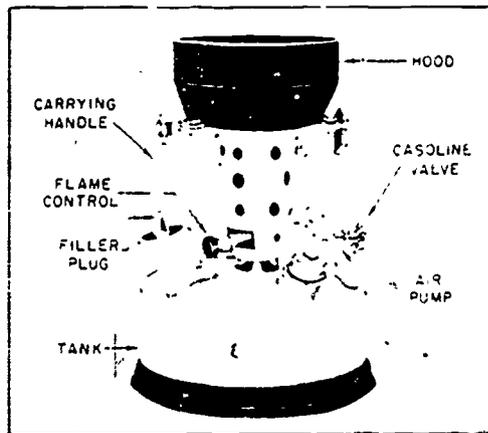

Figure 3-40 Gasoline melting furnace
*Melting Furnace.* The melting furnace, shown in figure 3-40, is used to melt lead when you are making soil pipe joints. It operates on white gasoline (not leaded). Many of these furnaces have been used in the past. There are still some being used in the Air Force. Another type of melting furnace is one that is operated on propane gas. You saw it in figure 2-2. It is an